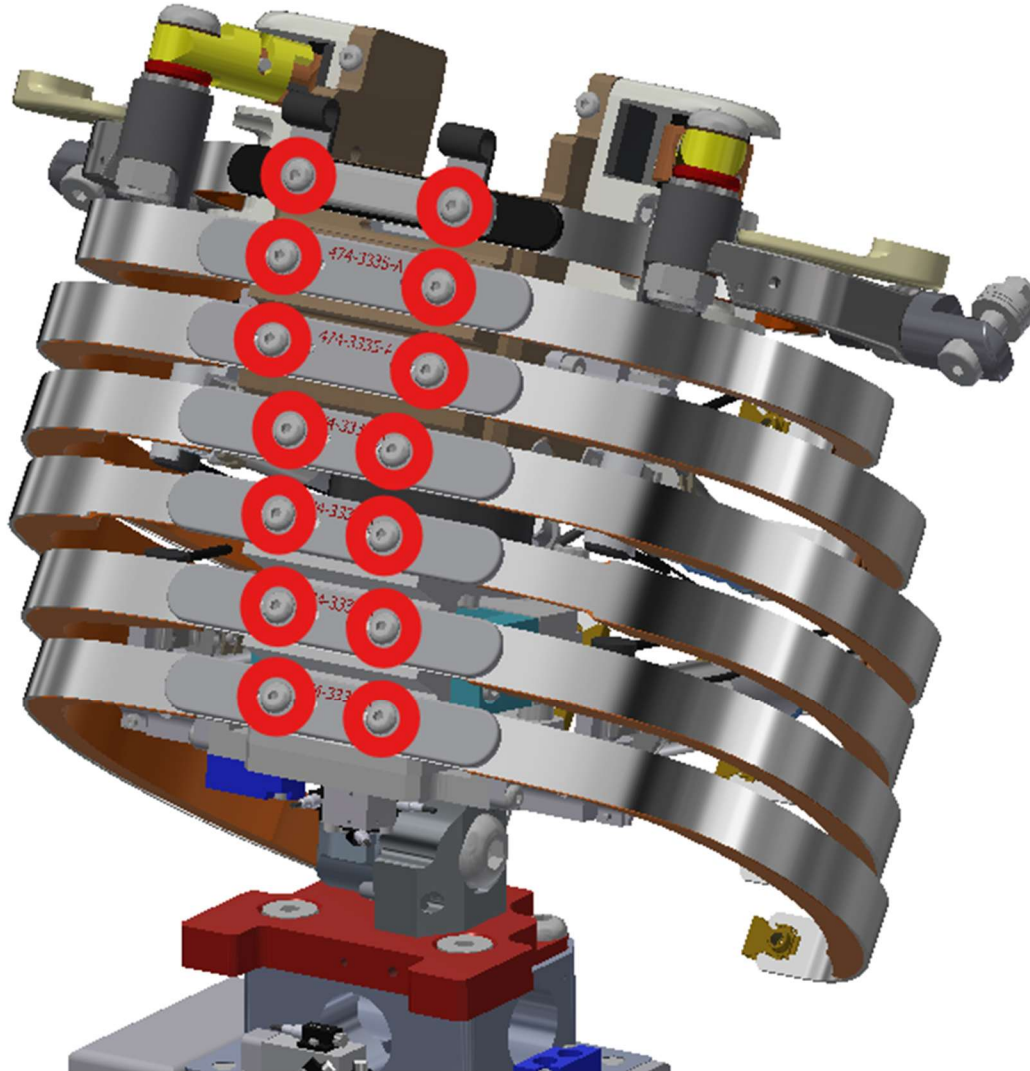

Figure 5-19. Remove the 7 Ribs from the Thorax by removing the two M5 X 0.8 X 8 LG. BHCS per rib
- 5.2.13 Remove rib 1 by removing two M5 X 0.8 X 16 LG. BHCS. Remove the remaining six ribs by removing the M5 X 0.8 X 8 LG. BHCS per rib (Figure 5-19).